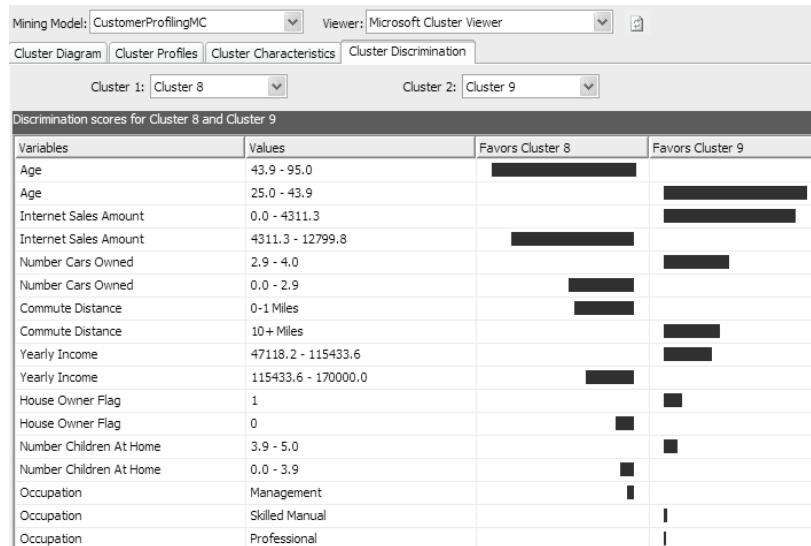

Figure 8.8 Use the Cluster Discrimination tab to find out what differentiates two clusters
2. Cluster 8 and 9 include mostly customers with management or professional occupations. By comparing clusters 8 and 9 side-by-side in the Cluster Discrimination tab (Figure 8.8), we discover that the most discriminating factor that differentiates these two clusters is customer age. Specifically, most customers in cluster 8 are older than 43 years, while cluster 9 customers are between 25 and 43 years old. Rename cluster 8 to **Professionals** and cluster 9 to **YUP** (Young Urban Professionals).